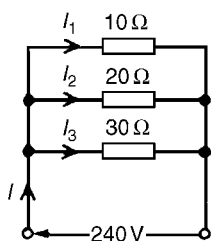

Figure 5.22
- (b) The parallel circuit is shown in Fig. 5.22. The equivalent resistance R_T of 10Ω , 20Ω and 30Ω resistance's connected in parallel is given by: